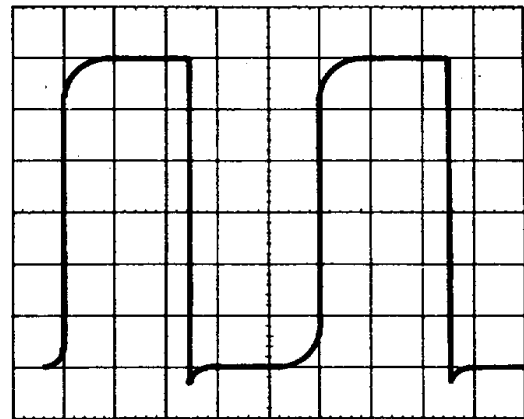

Figure 5-10. Reference Oscillator Output Measurement
4. Measure the 100 kHz output signal. See Figure 5-10. Output amplitude should be 6.0 +0.4 volts peak-to-peak. Period of the waveform should be 10 +0.5 μseconds.